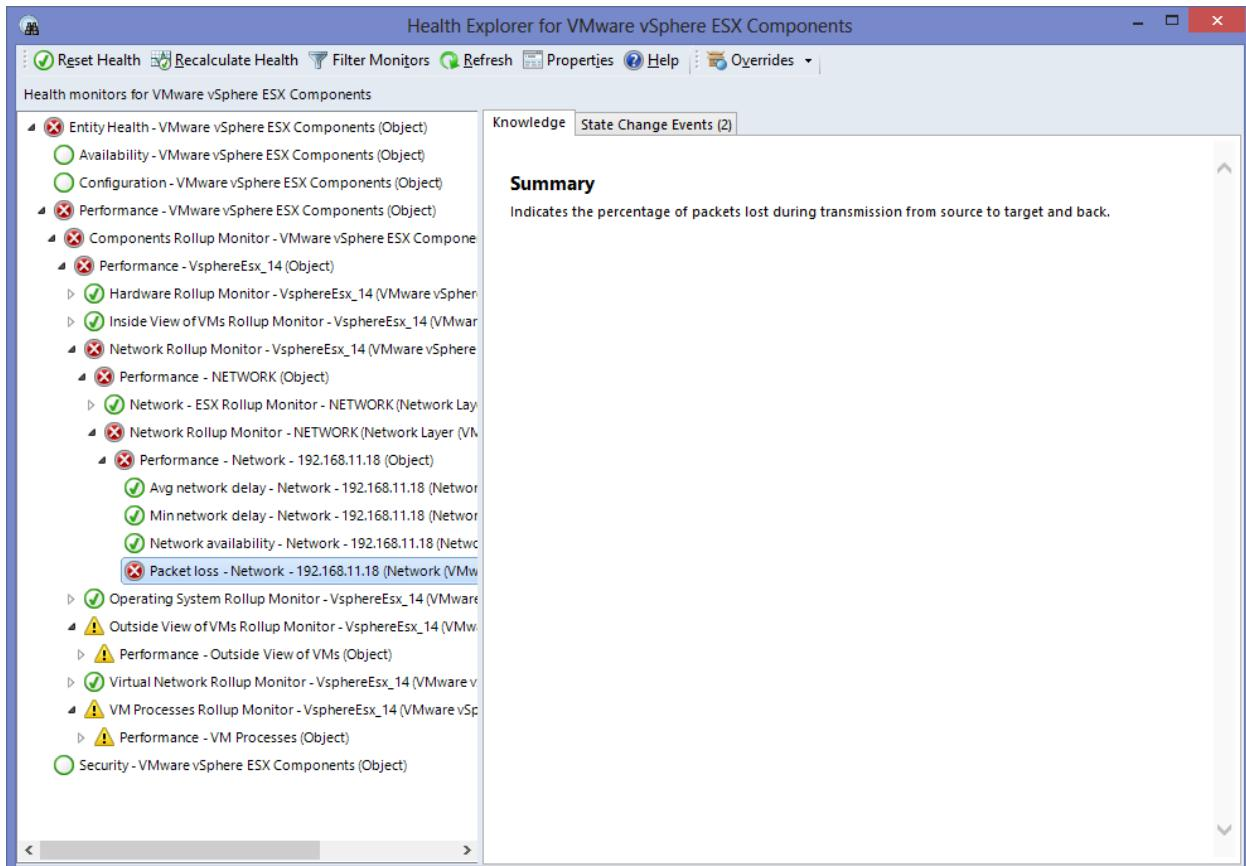

Figure 3.13: Health Explorer revealing the accurate reason for the Network problem with the VMware vSphere ESX server
4. To zero-in on the precise issue, right-click on the **Network** test representation in the topology and pick the **Health Explorer** option. Figure 3.13 will then appear pointing you to the exact measure that deviated from the threshold and caused the Critical problem. As can be inferred from Figure 3.13, a high packet loss on the network link to the VMware vSphere server is what led to the Critical state of the vSphere server.